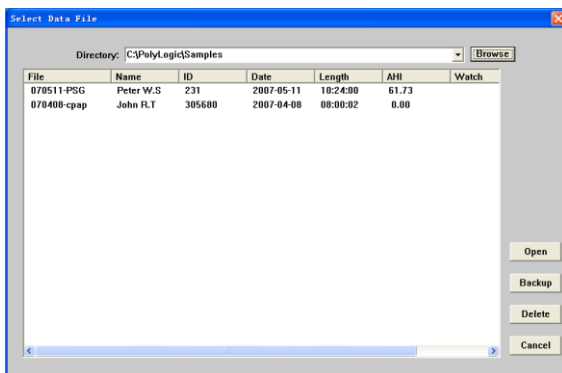

Figure 2-15 “Select Data File” dialog box
- ① In the main interface of data analysis software, choose "Open" in "File" of the menu bar, the system will enter the sleep data management interface. The screen shows the saved data and its related information in the hard disk (Figure 2-15). The desired data can be easily found by different orders in this interface.
- ② First of all, find out the route and catalog of the sleep data by using the "**Browse**" button. Then all the files are listed, with the information such as file name, patient name, serial number, recording date, record length, person on duty and data version etc. The files' order can be changed by clicking on the corresponding classification column.
- ③ In the lower right of the interface are the function keys such as **Open**, **Backup**, **Delete** and **Cancel**. Click the file name to select the file, and then press the appropriate function key to achieve data playback, data backup and data deletion.
- ④ Selecting "Cancel" button in the lower right of the interface can return to the main interface of data analysis software.